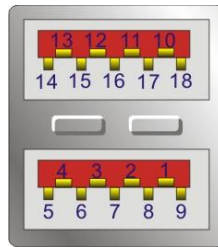

Figure 3-26: External USB 3.2 Gen 2 Connectors Location
- CN Location:** See **Figure 3-26**